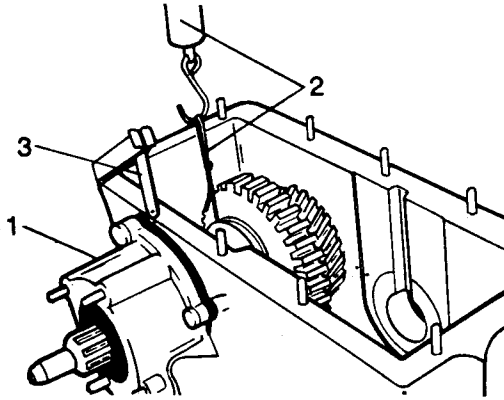

Fig H2.29
- (1) Refer to Fig H2.29. Fit the speedometer drive housing (1) without any shims and tighten the nuts with the fingers.
- (2) Measure the rolling resistance by means of a string tied around the groove of the selector gear for high and low speeds, and a spring balance. The string must not slip which would give a false reading (2).
- (3) The correct preload of the bearings is when a reading of 0,90 to 1,80 kg is achieved on the spring balance. The preload is increased by tightening the speedometer drive housing nuts uniformly.
- (4) When the preload is correct, measure the distance with feeler gauges between the speedometer drive housing and the transfer box surfaces (3). The distance is the same as the thickness of the shims to be fitted between the speedometer drive housing and transfer box.
- (5) Remove the spring balance, string and speedometer drive housing.